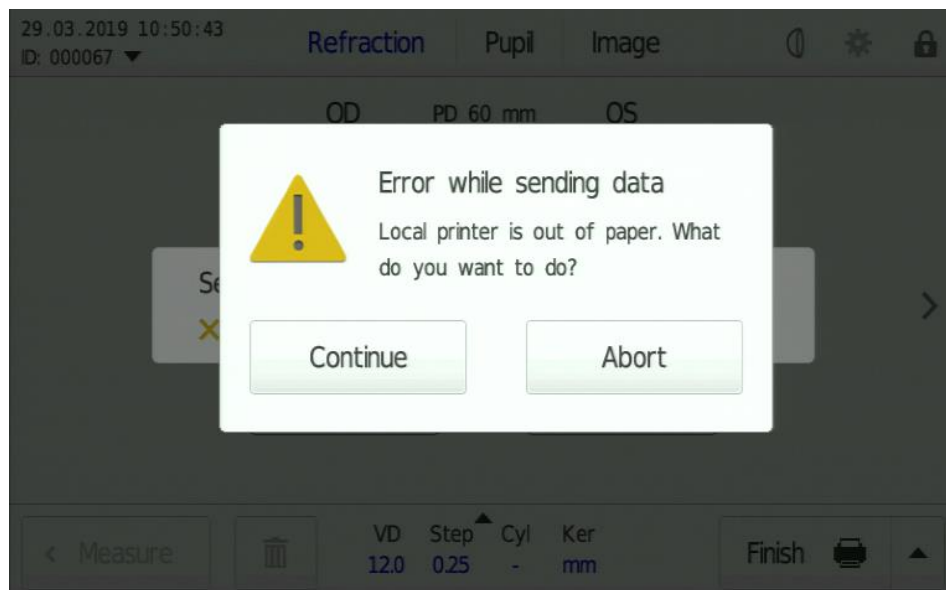

Fig. 58 Screen display during data output
- In case of an error you may have the choice how to proceed (Fig. 58).